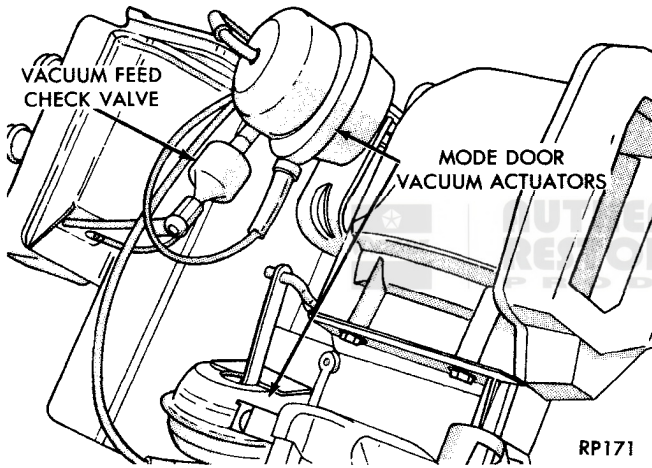

Fig. 3—Mode Door Vacuum Actuators
**Removal and Installation (Fig. 3)**
- (1) Disconnect vacuum line.
- (2) Locate and remove two vacuum actuator attaching bolts.
- (3) Disengage drive linkage from mode door